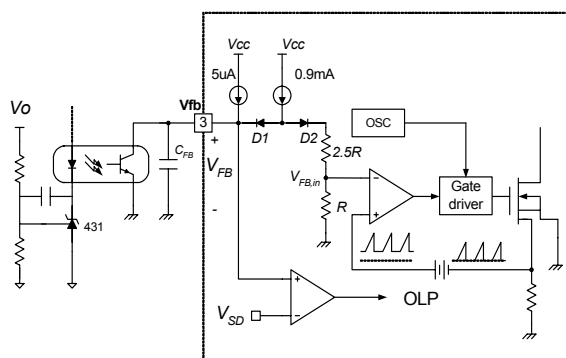

Figure 5. Pulse Width Modulation (PWM) Circuit
**2. Feedback Control** : The FSDL0165RN employs current mode control, as shown in Figure 5. An opto-coupler (such as the H11A817A) and shunt regulator (such as the KA431) are typically used to implement the feedback network. Comparing the feedback voltage with the voltage across the Rsense resistor plus an offset voltage makes it possible to control the switching duty cycle. When the KA431 reference pin voltage exceeds the internal reference voltage of 2.5V, the optocoupler LED current increases, the feedback voltage Vfb is pulled down and it reduces the duty cycle. This event typically happens when the input voltage is increased or the output load is decreased.
**4.4 Over Voltage Protection (OVP) :** In the event of a malfunction in the secondary side feedback circuit, or an open feedback loop caused by a soldering defect, the current through the opto-coupler transistor becomes almost zero (refer to Figure 5). Then, VFB climbs up in a similar manner to the over load situation, forcing the preset maximum current to be supplied to the SMPS until the over load protection is activated. Because excess energy is provided to the output, the output voltage may exceed the rated voltage before the over load protection is activated, resulting in the breakdown of the devices in the secondary side. In order to prevent this situation, an over voltage protection (OVP) circuit is employed. In general, Vcc is proportional to the output voltage and the FPS uses Vcc instead of directly monitoring the output voltage. If Vcc exceeds 19V, OVP circuit is activated resulting in termination of the switching operation. In order to avoid undesired activation of OVP during normal operation, Vcc should be properly designed to be below 19V.